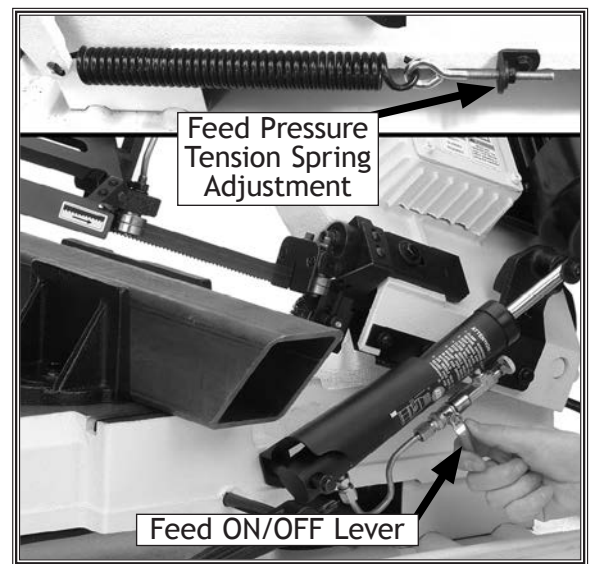

Figure 42. Bandsaw operating and starting feed before blade contacts workpiece.
2. Using a 14mm wrench, adjust the feed pressure tension spring so the spring coils are not in tension, but the spring is still held firmly in place (see **Figure 42**).
6. Slowly rotate the feed rate dial to a conservative feed rate until the saw begins to cut the workpiece (see **Figure 42**).